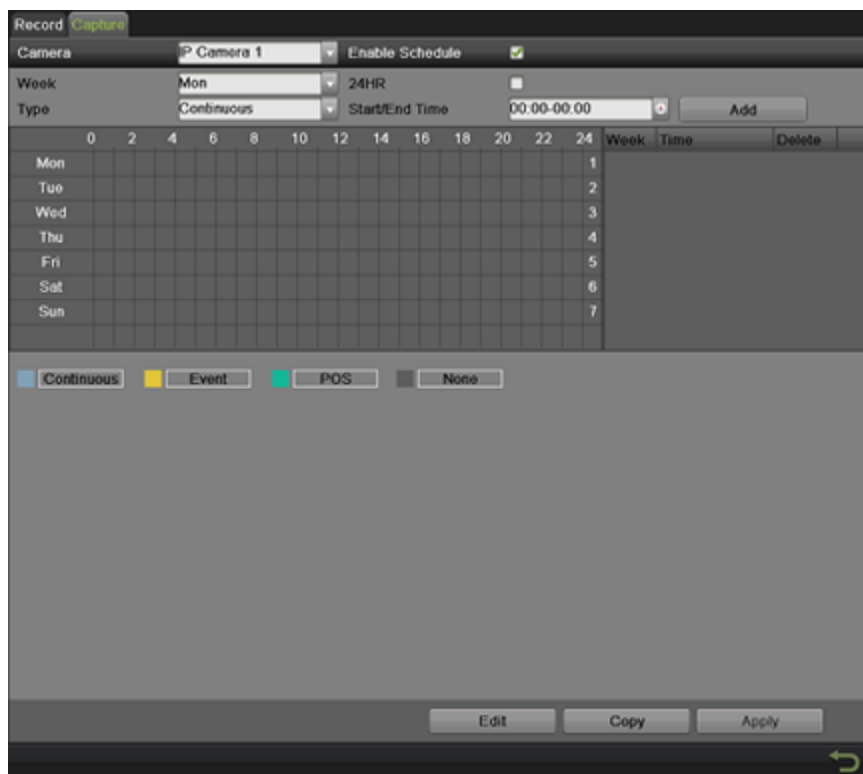

Figure 84 Capture Schedule Configuration Menu
- Select the Capture tab, as shown in **Figure 84**, to configure capture schedule.